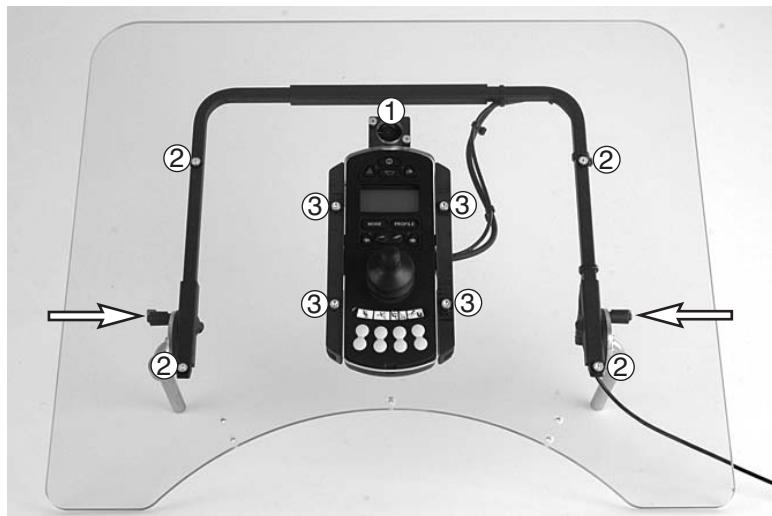

Fig. 1. General picture
1. Install the button that makes it possible to reverse the panel in the correct location using the two screws supplied (*Fig. 1 item 1*).
2. Install the frame with the four screws supplied (*Fig. 1 item 2*).
3. Install the panel on the table with four screws. Ensure that you install the panel with the button box facing the user (*Fig. 1 item 3*).
6. The angle of the table can be adjusted continuously by opening the screws (see arrows in *Figure 1*). Tighten the screws when you have the angle you want.